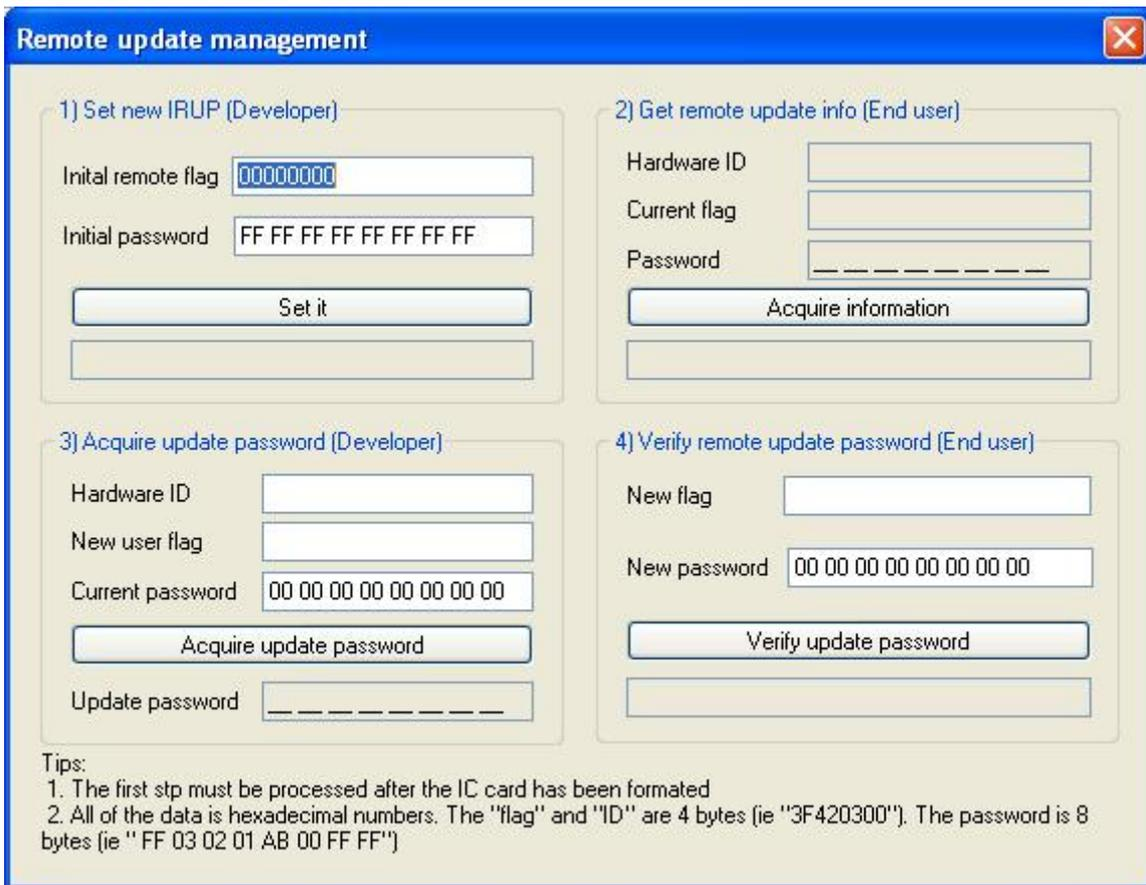

Figure 5-1
1. The software developer must first initialize the ROCKEY6 SMART dongle to set the Initial Remote Update Tag (IRUT) and Initial Remote Update Password (IRUP). Here, we suggest you to set initial tag and password for later use even if you do not plan to use this feature for the moment. The IRUP cannot be set as a single “F” in all size; similarly, a single “0” in all size is unacceptable for the IRUT value input. See Figure 5-1 for details: